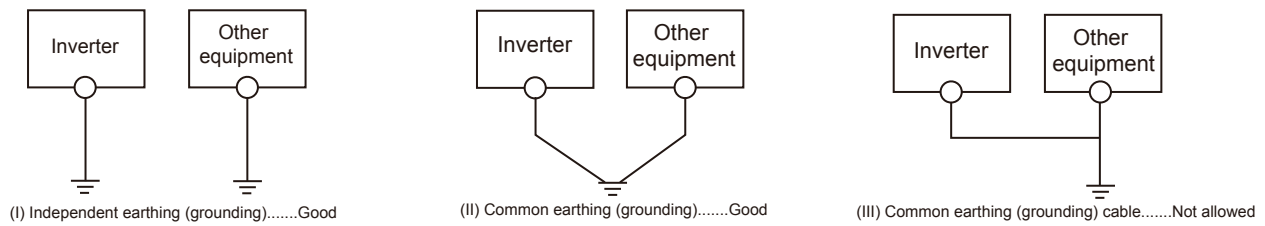

Fig.7.26 Grounding method
- (a) Earthing (grounding) of the inverter is for exclusive use as much as possible. (Refer to Fig.7.26)